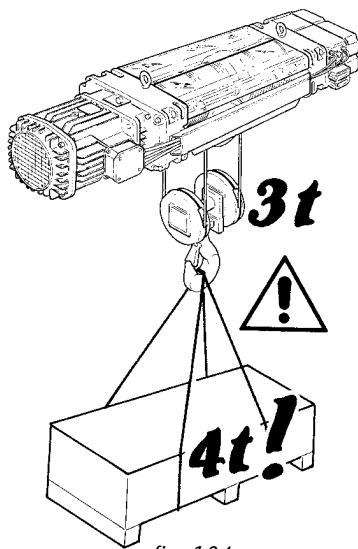

fig. 104
- one with a weight greater than the nominal capacity of the hoist (fig. 104)